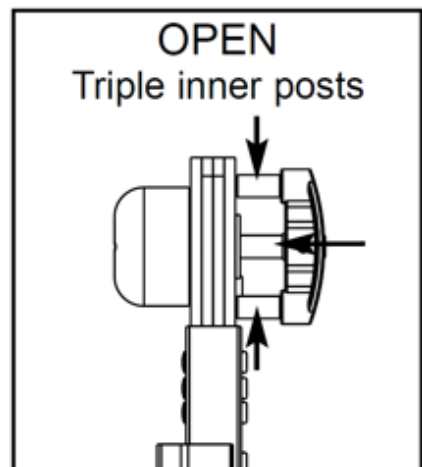

Figure 2
- 2) In the open position (See Figure 2) the ladder angle can be adjusted.